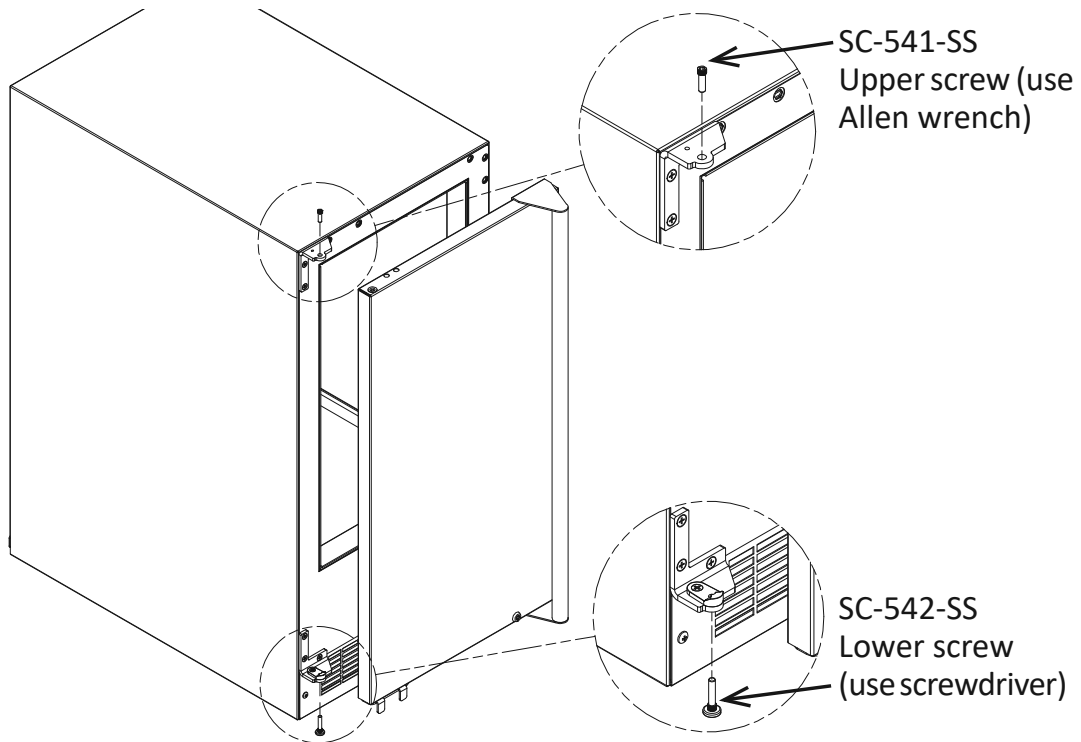

FIG. 12
Step 10. Rotate the door 180° and attach it to the cabinet using the SC-541-SS upper screw and the SC-542-SS lower screw. See figure 12.